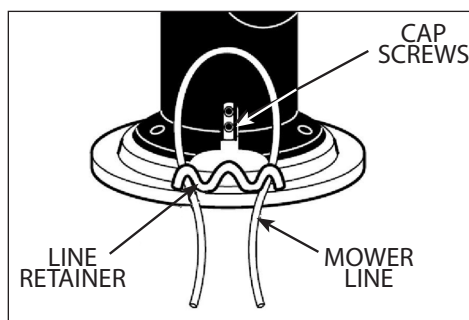

FIGURE 10: Threading The New Mower Line.
3. First, thread the ends of the new mower line through the outside loops. **SEE FIGURE 10**